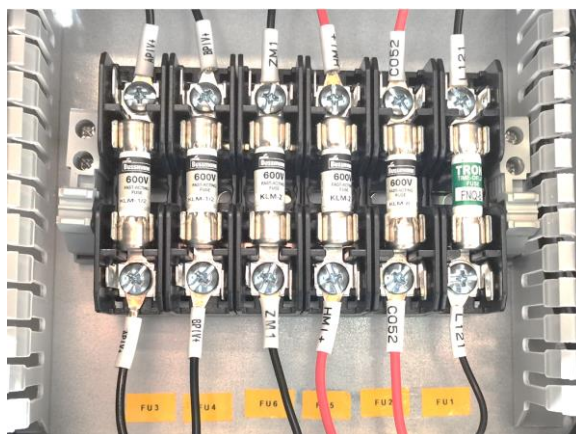

Fig. 6-13 Type and ratings of fuses
In general, SONEIL SPARK is equipped with RFID card reader as standard, and the charging process can be started and stopped by using the RFID card (shown as Fig. 6-13) configured with the host. The special customized card swiping function is not separately described here.
- h) To reduce the risk of fire, replace only with same type and ratings of fuse as shown in Fig. 6-13.